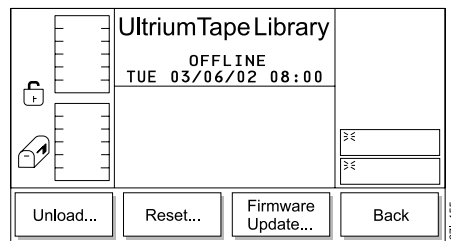

Figure 191. Drives Submenu
2. Press the button below the **Drives** softkey. The Drives Submenu displays (see Figure 191).